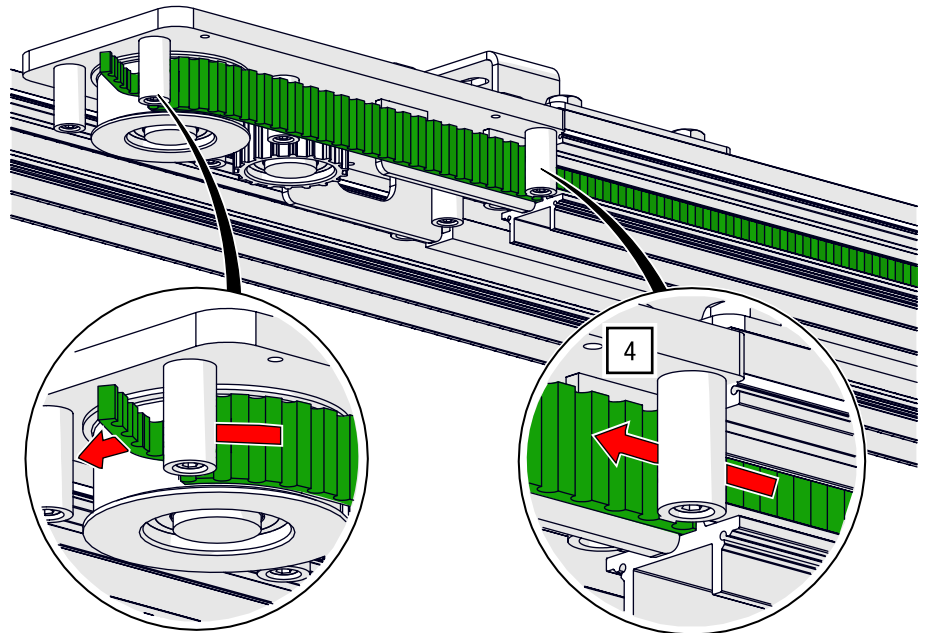
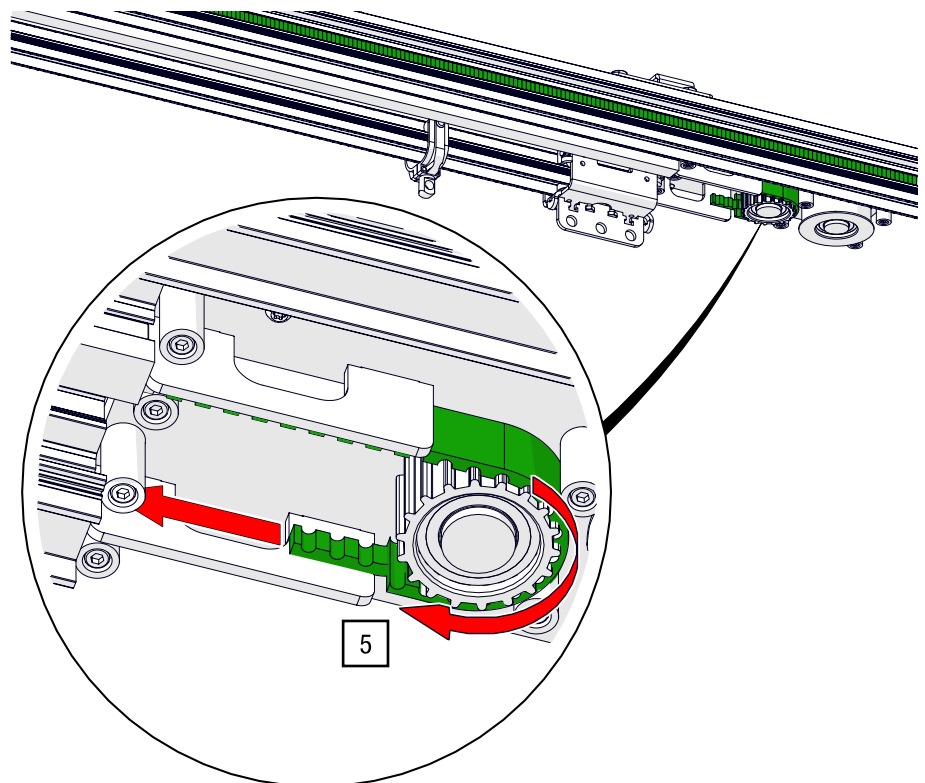

Fig. 79: Timing belt installation – Threading timing belt through outer wheel on the deflection unit
Fig. 80: Timing belt installation – Threading timing belt through inner wheel on the deflection unit
4. Guide the timing belt further through the path to the first deflection roller of the overlap, there past the guide roller and around the outer deflection roller (see Fig. 79).
5. Pull the timing belt to the second deflection unit and place it around the inner deflection roller (see Fig. 80).
7. Pull the timing belt to the second deflection unit and place it around the outer deflection roller (see Fig. 79 and Fig. 80).
8. Thread the timing belt further through the path through the first deflection at the overlap around the inner deflection roller (see Fig. 79 and Fig. 80).